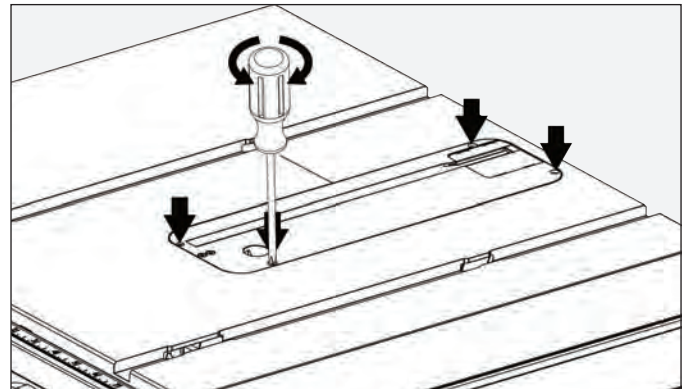

Figure 10
If adjustment is needed, adjust the (4) Phillips set screws (Fig. 10) up or down as needed. Repeat this process as needed until the throat plate is level.